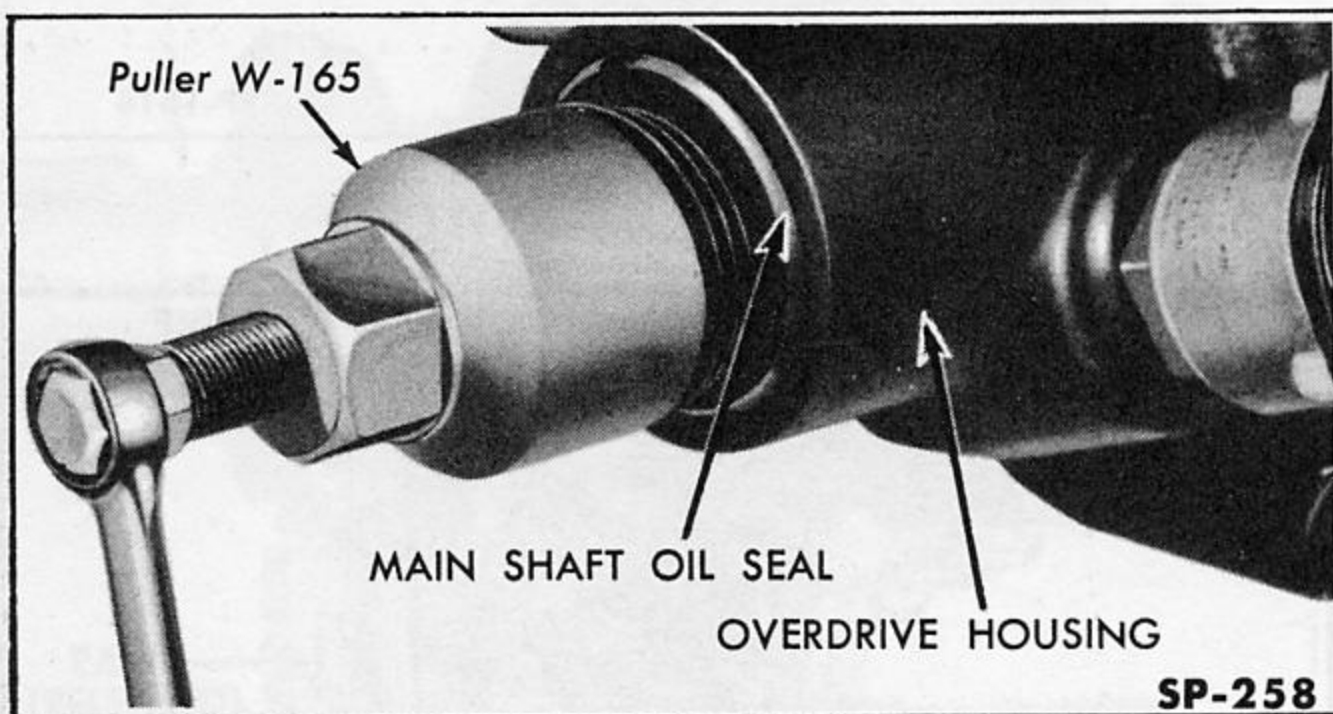

Fig. 146—Removing Mainshaft Oil Seal
3. Install Pinion and Transmission Shaft Oil Seal Puller W-165 into the mainshaft oil seal by turning it until the threads cut sharply into the seal. Remove seal by turning puller center screw against mainshaft (Fig. 146). Regardless of its appearance and condition, it is recommended that the seal be replaced.